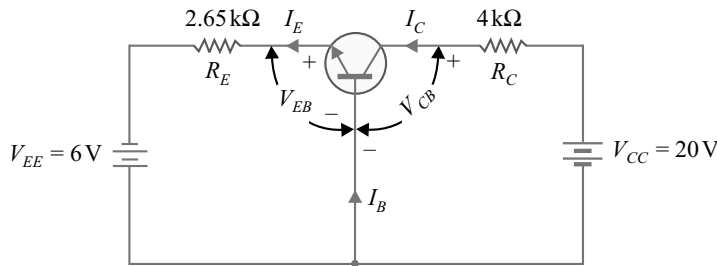

Fig. 6.47
**Example 6.32.** For the common base npn transistor circuit shown in Fig. 6.47, determine
(i) **Equation of d.c. load line.** Referring to Fig. 6.47 and applying Kirchhoff's voltage law to the collector-base loop, we have,
(iii) Referring to the common base *npn* transistor circuit in Fig. 6.47, we have,